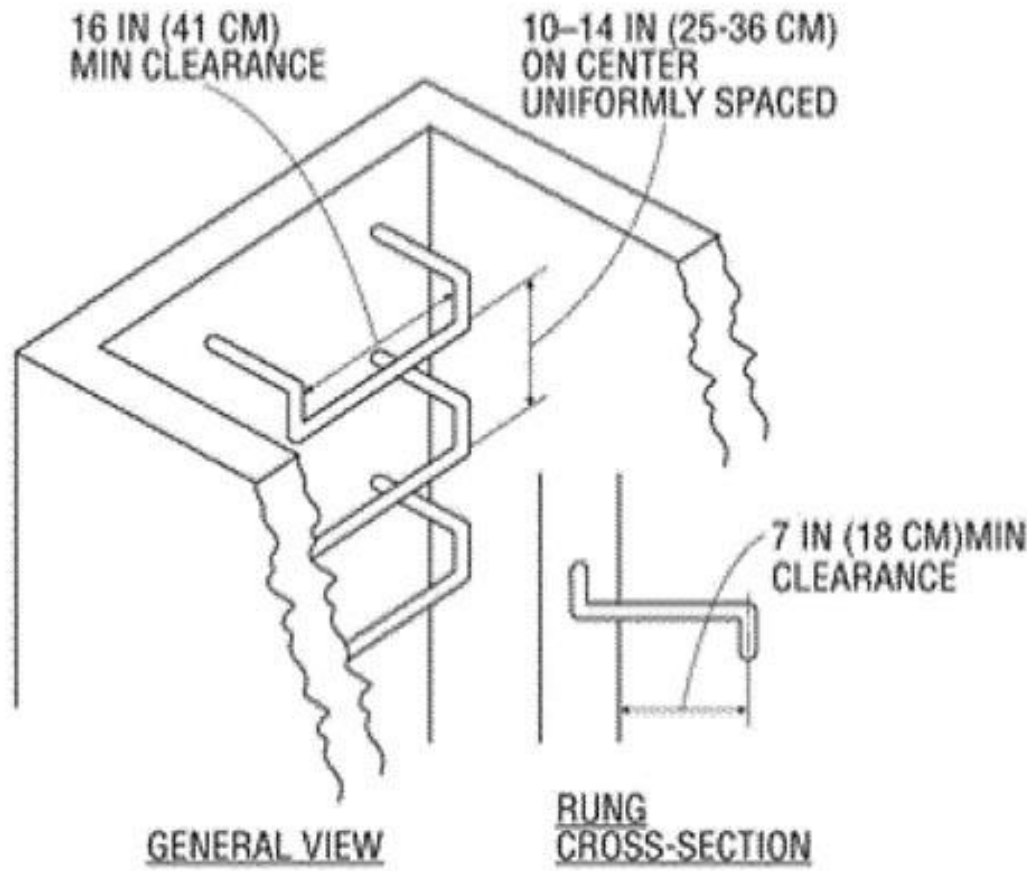

Figure D-4 -- Individual Rung Ladder.
- Individual-rung ladders are constructed to prevent the employee's feet from sliding off the ends of the rungs (see Figure D-4).